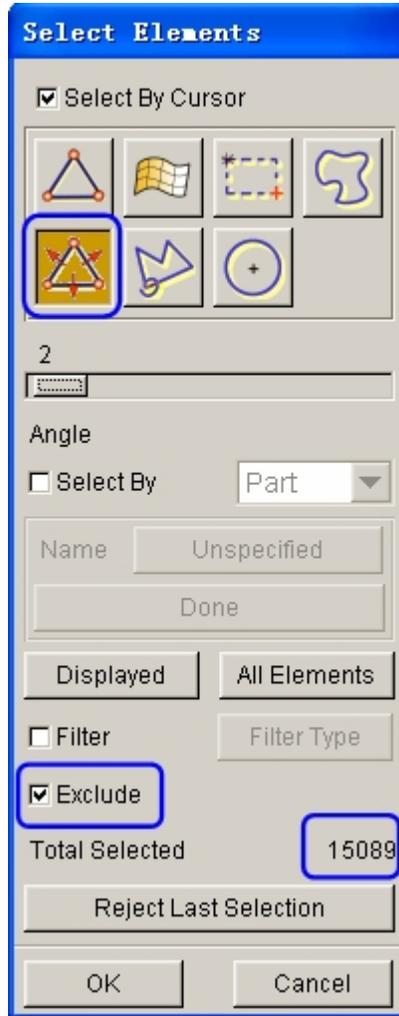
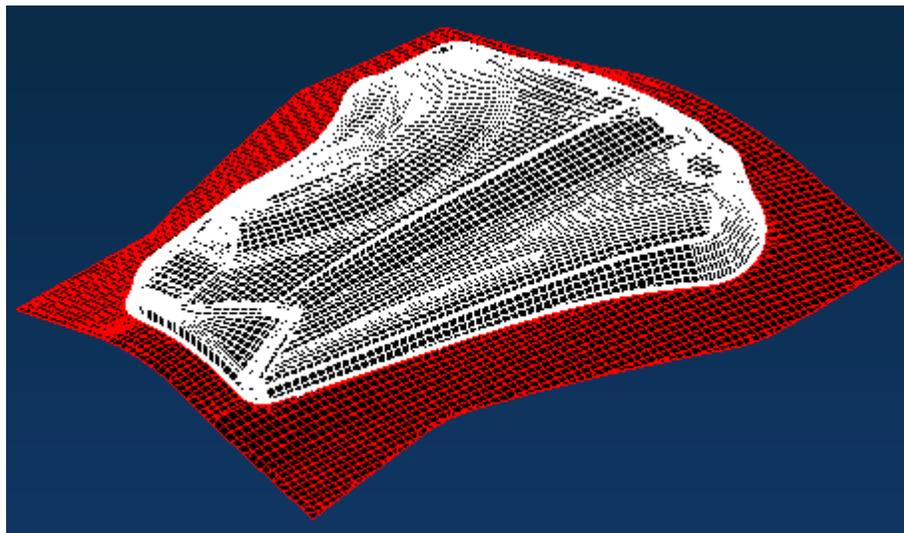

Figure 1.21 Select elements
Figure 1.22 Highlighted elements
13. Select some elements to define **punch** from the current database. The program will copy these elements into a default part, and automatically add the part to the list of **punch**. Click the **DISPLAYED** button in the SELECT ELEMENTS dialog box to select all elements. Toggle on the **Exclude** option and select the elements on binder surface using the **Spread** function with **2°** spread angle, as illustrated in Figure 1.21. The program prompts that 15089 elements have been selected. As illustrated in Figure 1.22, the elements on binder surface are excluded.